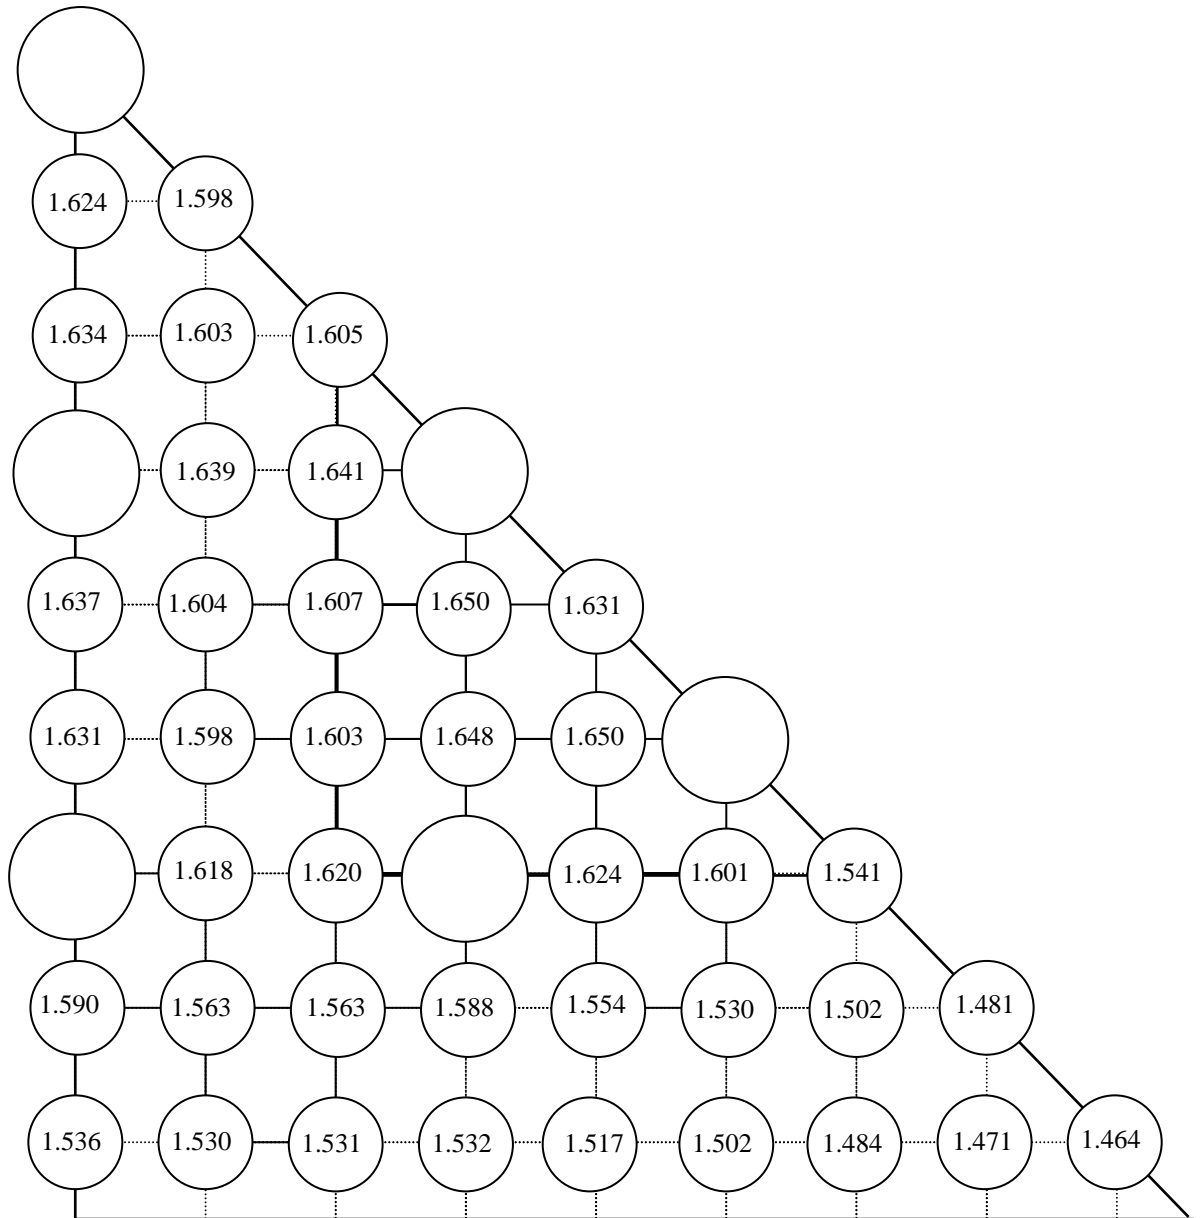
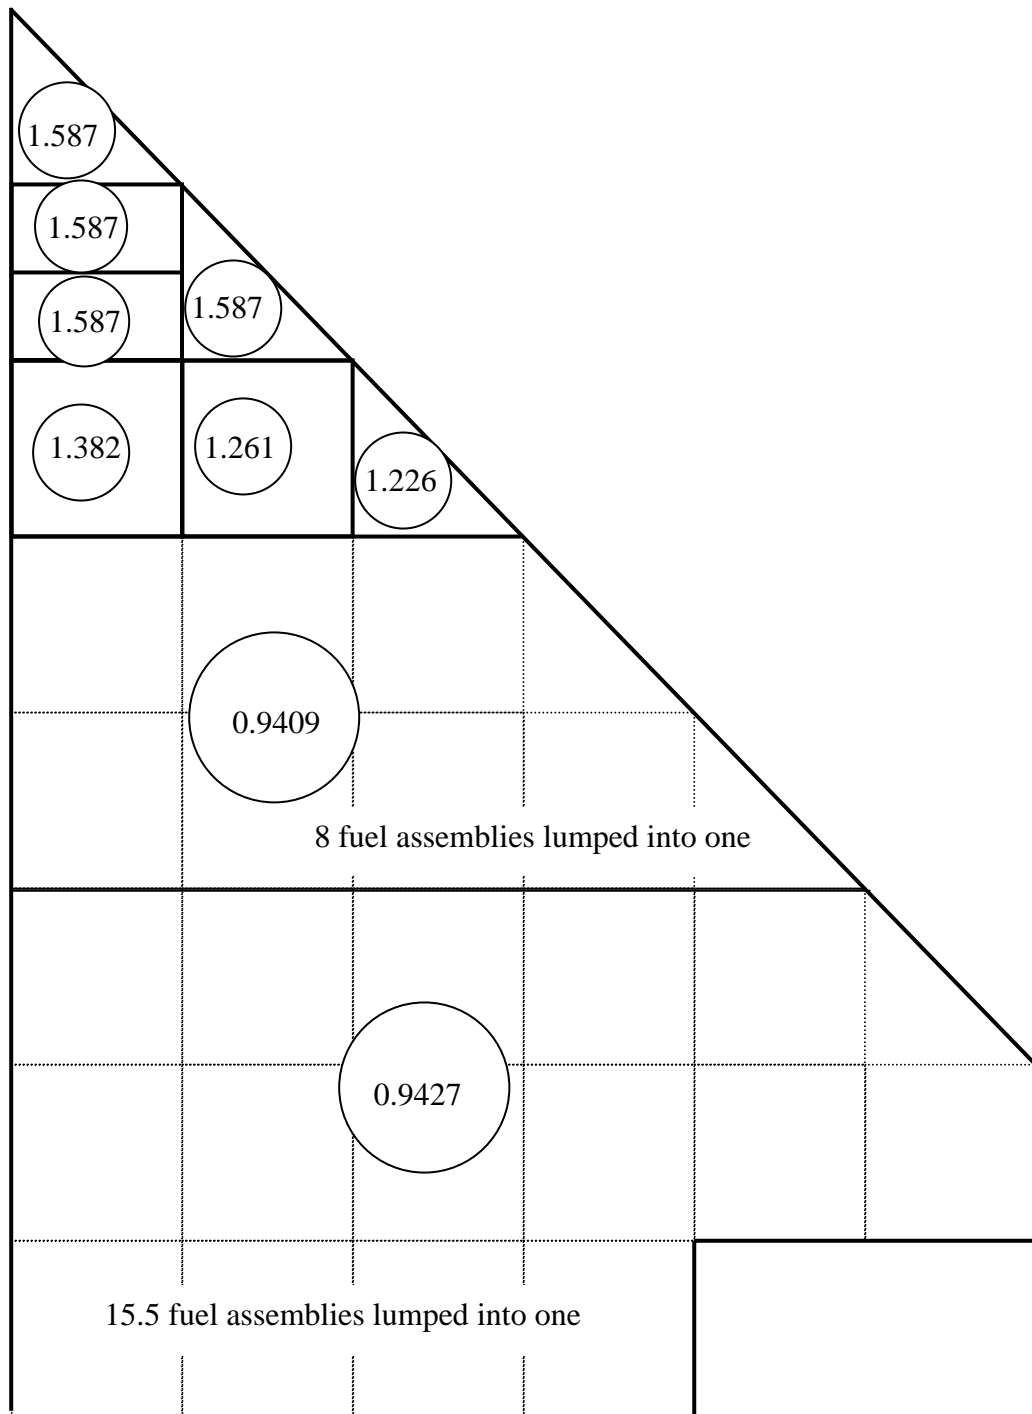

Figure 1 Typical pin power distribution in the hot fuel assembly of a PWR core
Figure 2 Fuel assembly power distribution in a typical PWR core
1. Given data. The parameters of a typical Westinghouse PWR core with 17x17 fuel assemblies are given in Table 1. Pin power distribution (normalized to core average linear heat rate) in a hot fuel assembly is given in Figure 1 and normalized fuel assembly distribution is shown in Figure 2. Note that core power distribution is symmetrical, hence only 1/8 of the core can be modeled. Assume chopped cosine with peak-to-average ratio of 1.55 for the axial power profile.